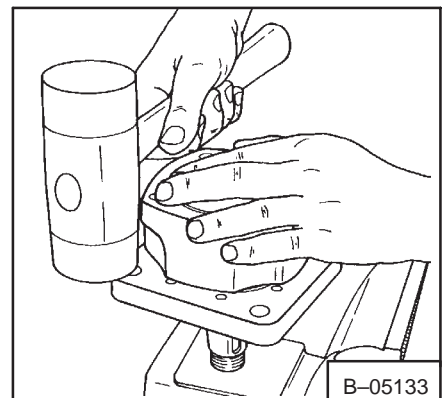

Fig. 3-50 Removing The Housing
20. Using a plastic hammer, tap the mounting flange from the housing (Fig. 3-50).